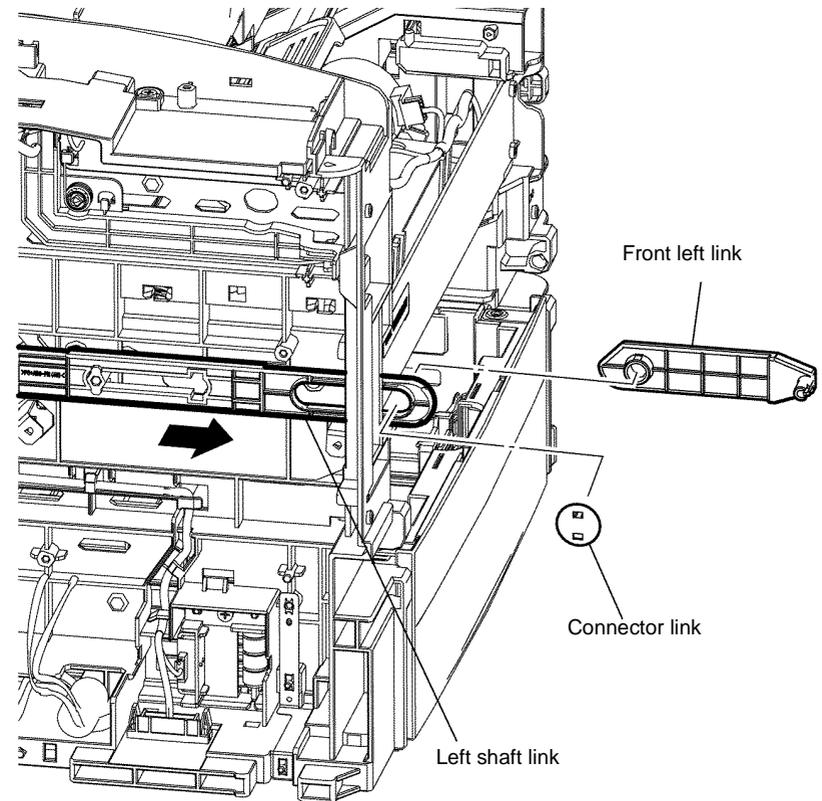

Figure 3 Front left link removal
16. Pull out the left link shaft toward the front of the printer, then remove the link connector and the front left link, Figure 3.